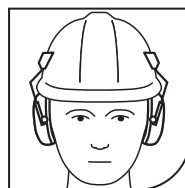

Fig 8
- **Working position:** With the cups over the ears press the arms inwards until you hear a click on both sides indicating a firm seal (Fig 8).